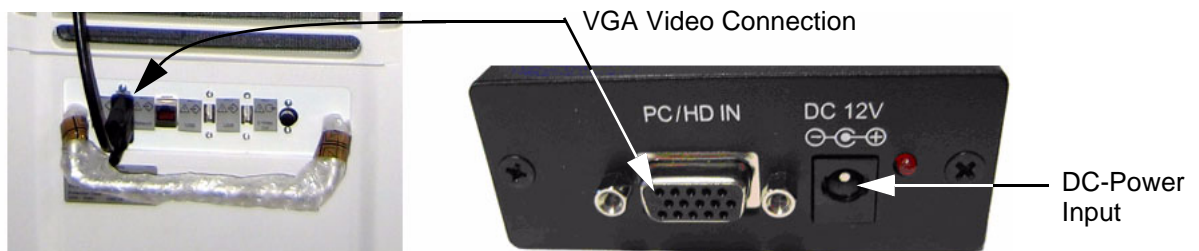

Figure 8-33 VGA Video Connection
- 6.) Connect the RGB Video Cable from the **VGA Out** Connector (on Voluson E8 / Voluson E6 system) to the **PC/HD IN** Connector on the Image Resizer Box (see: Figure 8-33 below).